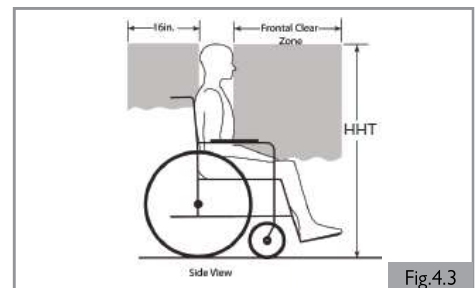

Fig 4.3
4. The estimated seated height (HHT) from the ground or floor to the top of the wheelchair-seated occupant's head ranges from approximately 47-in (119 cm) for a small adult female to about 61-in (155 cm) for a tall adult male (Fig 4.3).